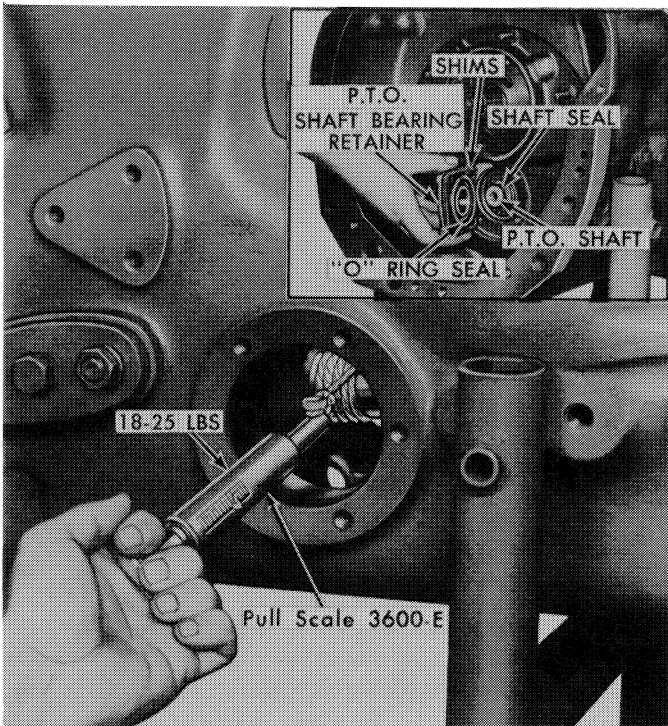

Figure 75
3. Remove the transmission side inspection cover and wrap a pull scale cord around the shaft, as shown in Figure 75. The shaft should rotate under a steady pull of 18–25 lbs. Adjust preload as required, using the